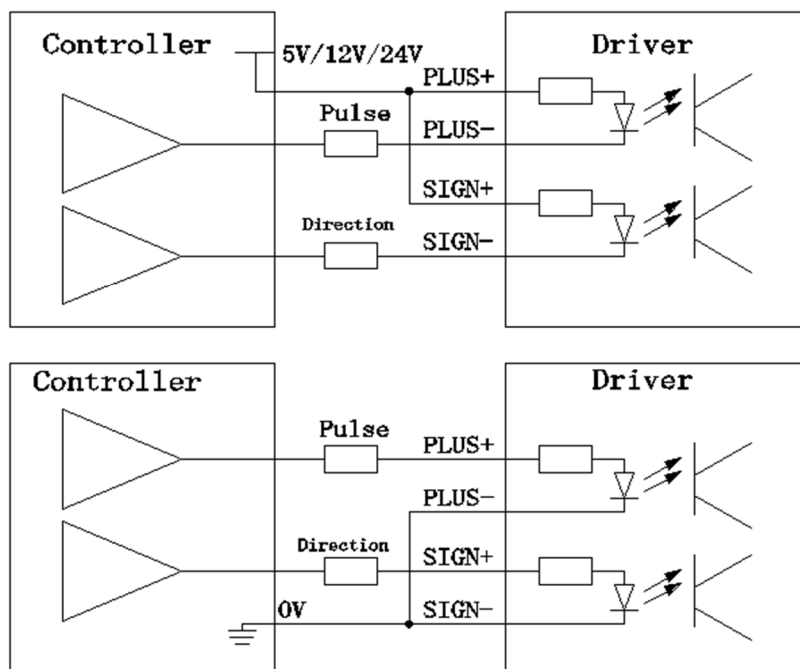

Figure 7-1 Pulse Input Wiring Diagram
2) Confirm that the pulse wiring is correct. Refer to Figure 7-1 for differential wiring and single-ended wiring.